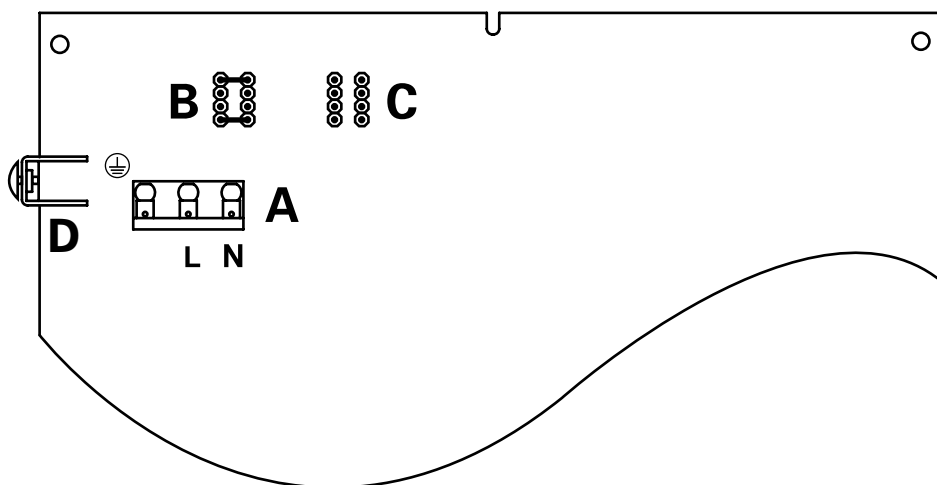

Fig. 2.177 Jumper settings: BSTU4 desktop unit local supply; AC or DC
The grounding of the BSTU4 desktop can be made both via terminal block (A) and via the pressure clamp (D, Fig. 2.177) on the rear panel of the device. A grounding because of safety regulations is not mandatory.